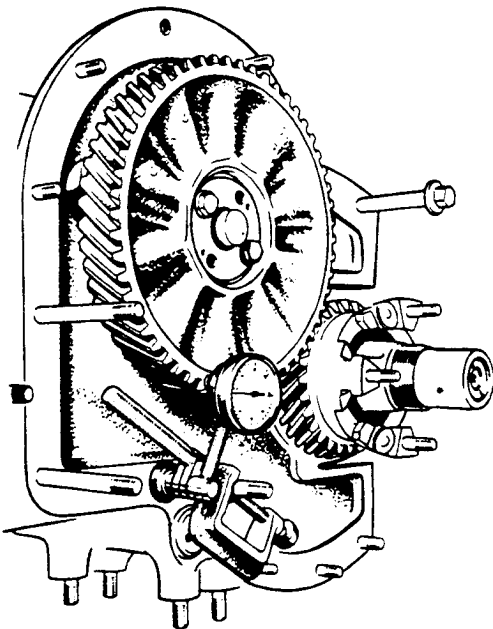

FIG. 1. CHECKING RUN-OUT OF CAMSHAFT GEAR.
- (i) After dismantling the spring drive unit, including the removal of the crankshaft pinion assembly, temporarily fit the new gear to the camshaft. Prior to checking the backlash, place the registering member of a dial indicator on the front face of the camshaft gear (just beneath the teeth) as shown in Fig.1 and check the gear for run-out which should NOT exceed .002" (.05 m/m). This operation is carried out without the crankshaft pinion in position.